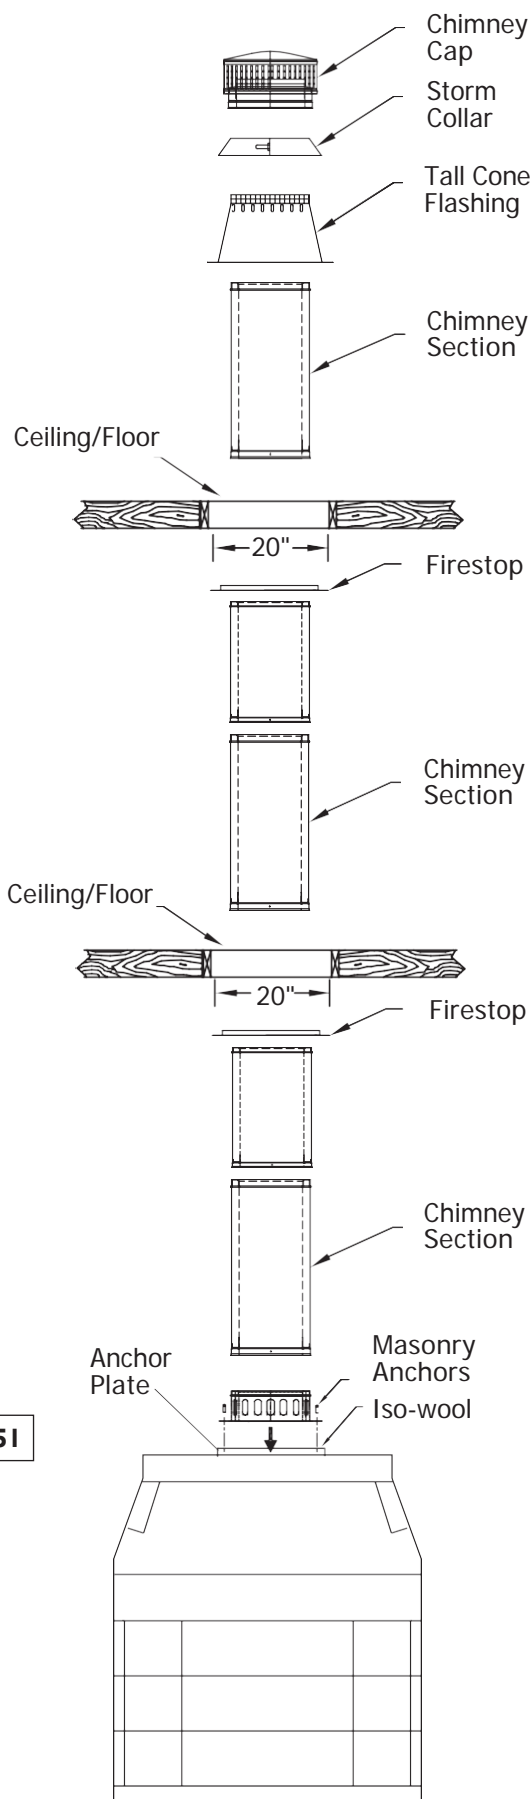

FIGURE 5I
5. Install Firestop: A Firestop is required on each floor penetration in multistory installations. Building Codes require a Firestop at every floor/ceiling level including where the chimney penetrates the attic. **Figure 5I** shows a typical 2 story installation with an attic.
NOTE: A Firestop is not installed where the chimney penetrates through the roof. The Firestop is installed on the underside of the ceiling/floor framing and secure in place with nails or screws. **(Figure 5I)**